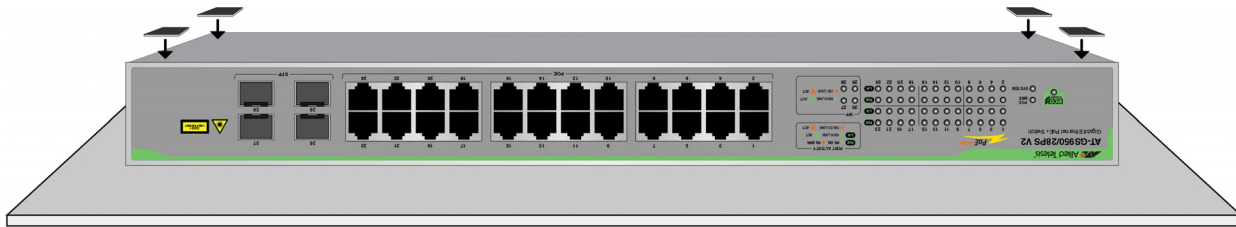

Figure 20. Affixing the Bumper Feet
5. Affix the bumper feet to the four corners on the bottom panel of the switch. Refer to Figure 20 on page 50.